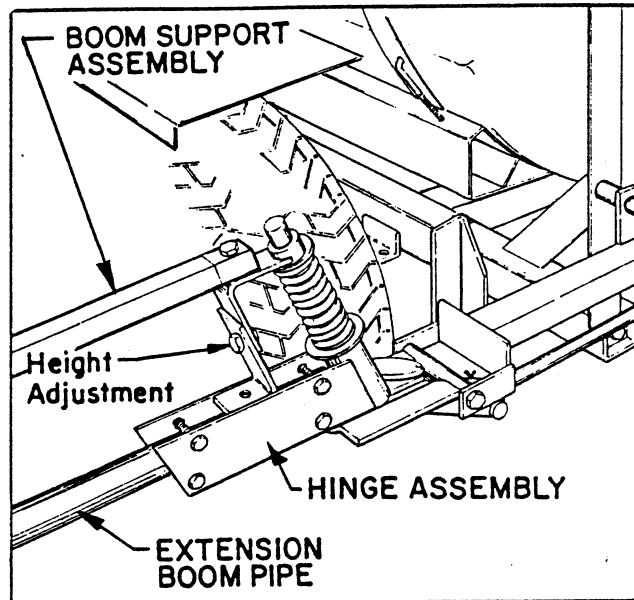

FIG. 6
■ Insert an Extension Boom Pipe into the Pivot Assembly and secure with four 1/4" x 1-1/4" hex hd cap screws and lock nuts. See FIG. 6. Repeat on the opposite side to assemble the other Extension Boom.
■ Attach the Boom Support Assembly to the Pivot Assembly, using a 5/16" x 1-1/2" screw and hex nut. See FIG. 6. Secure the two plates of the Boom Support Assembly to the Extension Boom Pipe, using two U-bolts and four lock nuts.